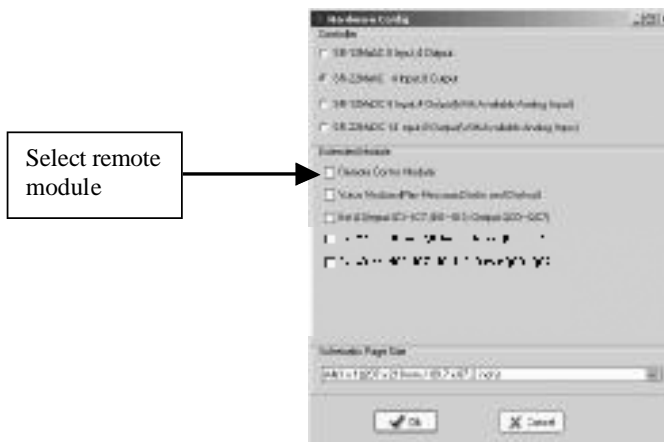

Fig. 6.5 Hardware Configuration
4. User must edit the Remote control instruction in control program, such as in Fig.6.5